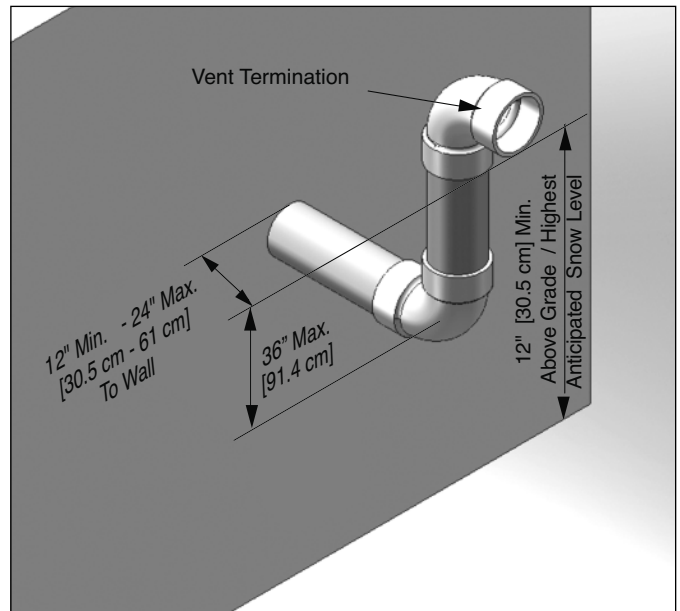

Fig. 29: Category IV - Sidewall Snorkel Termination of Vent Pipe with 90° Elbow Termination
- Using a 90° elbow as shown in Fig. 29 page 30.